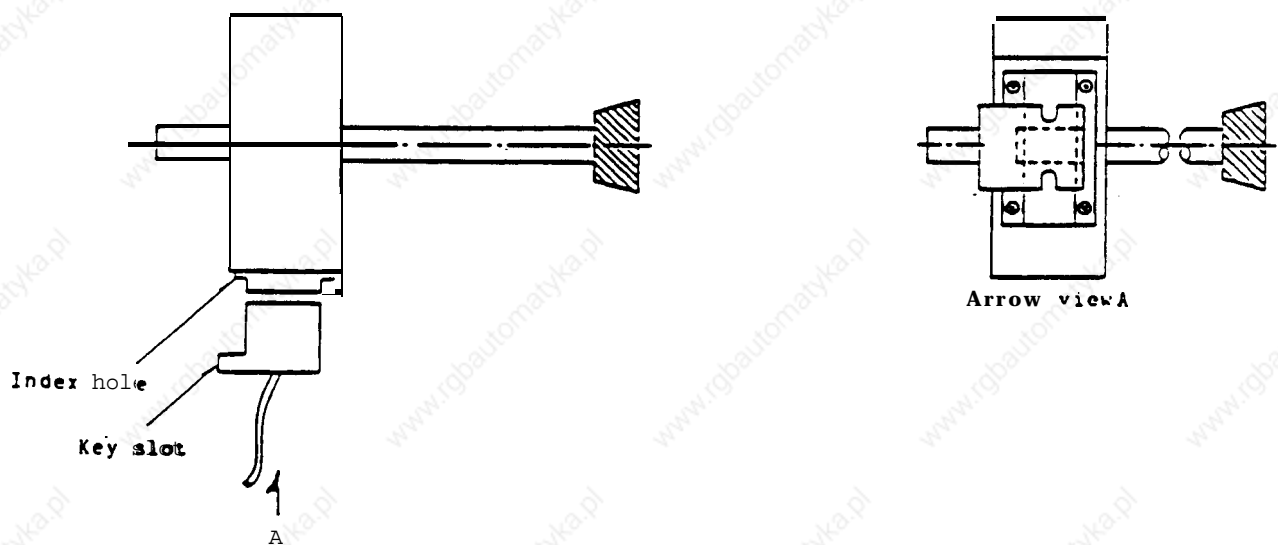
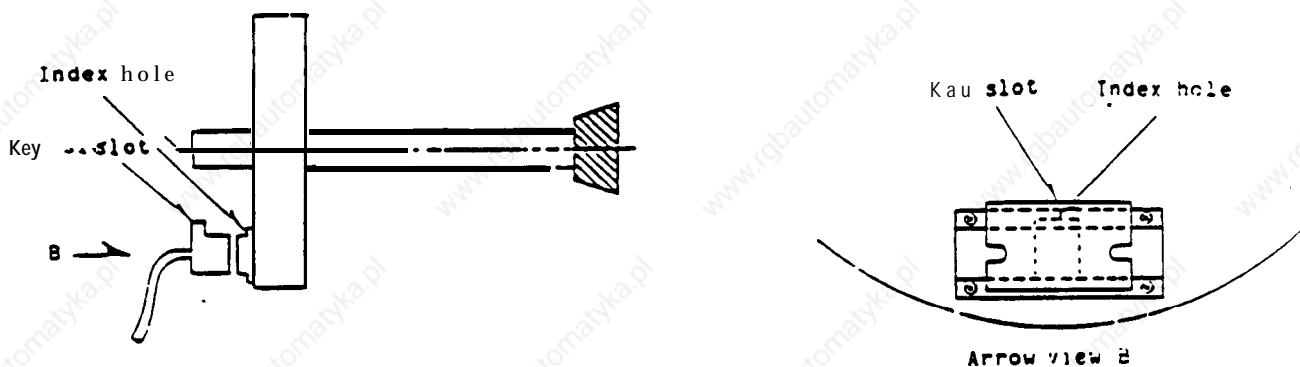
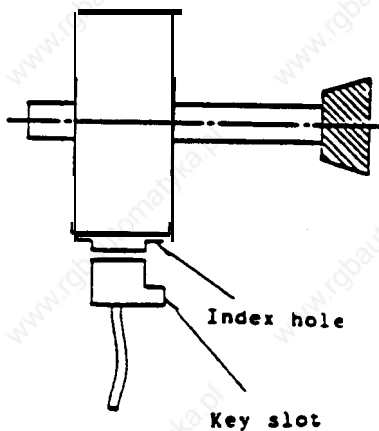

Fig. 6.3 Mounting onto the circumference of a rotating body
Fig. 6.4 Mounting onto a flat surface on the non-load side of the rotating body
Fig. 6.6
The mounting directions for the magnet and detection head are specified as shown in Figs. 6.3, 4 and 5.
As shown in Fig. 6.3, mount so that the key slot and index hole point to the non-load side of the spindle.
- (1) When the mounting surface is on the non-load side of the spindle, mount so that the index hole and key groove are pointing toward the center side, as shown in Fig. 6.4.
- (1) Orientation will remain normal even if the magnet and detector are mounted, as shown in Fig. 6.6, in the opposite way to that shown in Figs. 6.3, 4 and 5.
- (1) Do not bring strong magnetic objects near the magnet.
- (2) Take care not to subject the magnet to shocks.
- (3) Use M4 screws to secure the magnet rigidly to the spindle.
- (4) Provide the rotational balance of the whole spindle with the magnet mounted.
- (5) Bring the index hole in the center of the magnet **to the** center of the mounting disc and align its direction with that shown in Figs. 6.3, 4 **and** 5.
- (6) **Make** sure that the surroundings are clean so that metal chips and **dust do** not adhere to the magnet and thereby cause errors.
- (7) Paint over the mounting screws to lock them in position so as to avoid any looseness.
- (8) When the **magnet** is to be mounted onto a polished disc, **the** disc may have become magnetized. Steps should therefore be taken to demagnetize it.
- (9) The diameter of the disc onto which the magnet is mounted should be not less than 80 mm and not more than 120 mm. It may be larger if the spindle speed is low.
- (10) When the spindle onto which the magnet is mounted rotates at a speed **higher than 6,000 rpm**, the magnet must be replaced with a high-speed version (which can be used up to 10,000 rpm).
- (1) Ensure that the key slot on the detection head and the index hole in the magnet are pointing in the same direction.
- (2) Mount the sensor **so** that the center line on the end of the head and the center of the magnet are aligned (see Figs. 6-3, 4 and 5).
- (3) Refer to Table 1 **for** the size of the gap between the magnet and detector when the **mounting method** in Fig. 6.3 is adopted. Refer to Table 2 when the methods in Fig. 6.4 or 6.5 is employed.
- (4) Although the pre-amplifier connector is oil-proof, it should be mounted where the chances for oil to come into contact with it **are** minimal.
- (5) Lay the cable to the controller from the pre-amplifier at a distance from the power supply circuitry wires so that it is isolated from them.
- (6) First check the connector connections and ensure that the connectors have been inserted properly into the receptacles, and then tighten up their lock screws.